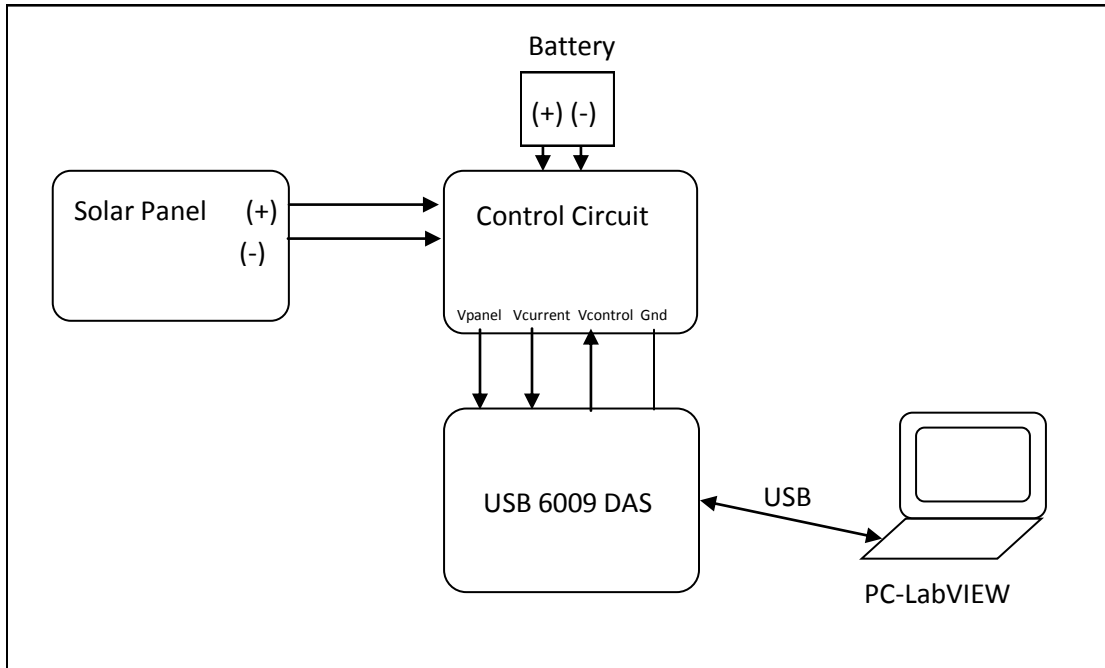

Figure 1. Block diagram overview of the Solar Panel I-V Measurement System
**Overview:** The field performance of photovoltaic “solar” panels can be characterized by measuring the relationship between panel voltage, current, and power output under differing environmental conditions and panel orientation. The system described here (Figure 1) incorporates simple circuitry to step the panel through a variable load in order to “exercise” the panel over a range of current and voltage conditions thereby determining the characteristic current-voltage (I-V) response of the panel. The low power measuring circuit runs from a small 9-volt battery or any 9-12 VDC source. The operator interface is a LabVIEW vi running on a laptop PC, using an inexpensive National Instruments USB-6009 data acquisition system.